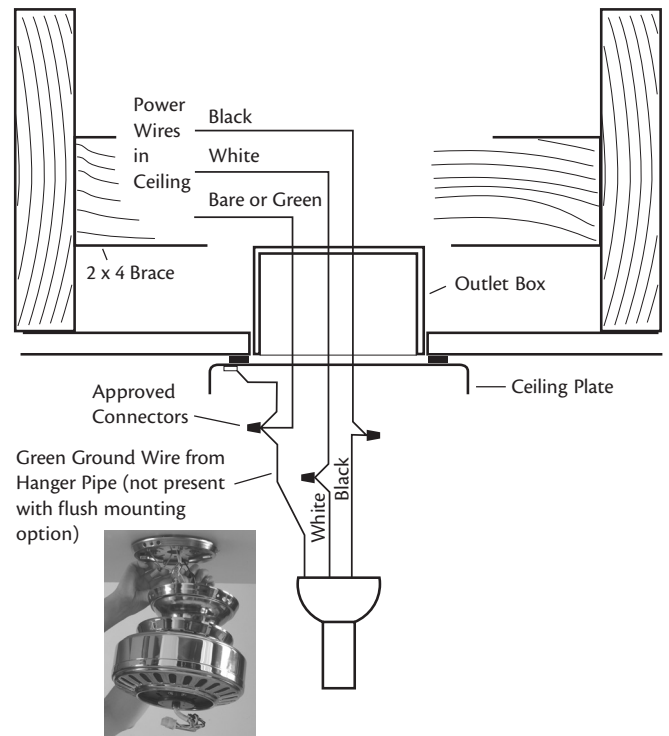

Figure 17 - Wiring the fan
- Connect the wires as shown in Figure 17. To connect the wires, twist the bare metal leads together. Place a wire nut over the intertwined length of wire and twist clockwise until tight as.